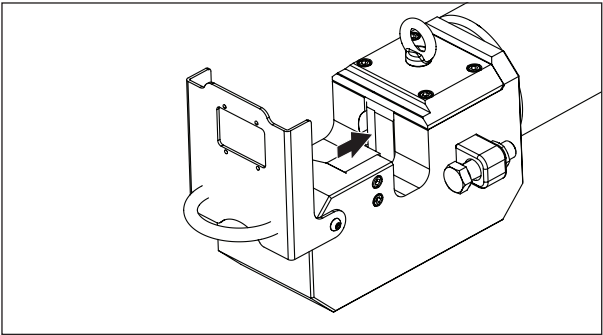

Figure 8, Piston and Blade in Home Position (fully retracted)
Always be sure that the piston and moving blade are in the fully retracted “home” position before placing any material inside the cutting head. See Figure 8.
2. Be sure that the piston is in the “home” (fully retracted) position. See Figure 8.
- 1. Start the pump. Move the piston to the “home” position (fully retracted). See Figure 8.
1. Start the pump. Move the piston to the “home” position (fully retracted). See Figure 8.